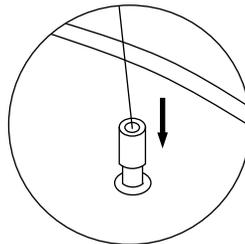

Fig 11
9. Attach the string to holder (Fig 11).